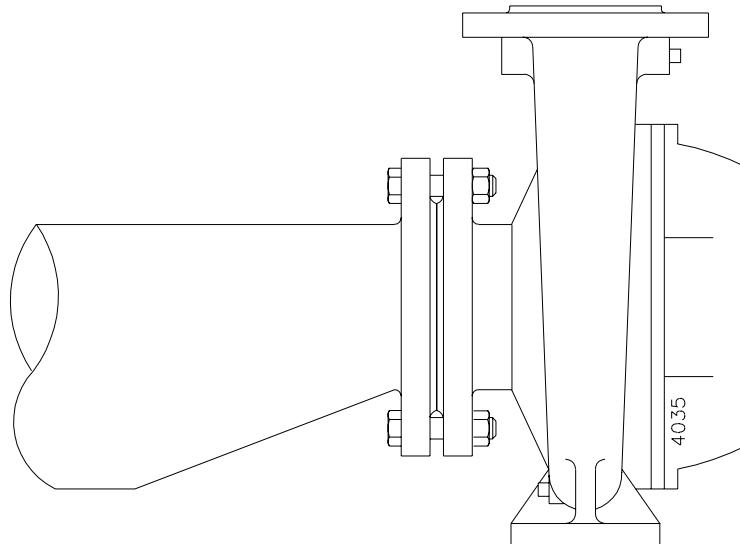

figure 15 Eccentric reducer to suction flange.
- The passage of the suction pipe must be amply dimensioned. This pipe should be as short as possible and run towards the pump in such a way that no air pockets can arise. If this is not possible, a venting facility should be provided at the highest point of the pipe. If the inside diameter of the suction pipe is larger than the suction connection of the pump, an eccentric reducer should be applied to prevent air pockets and whirls. See figure 15.